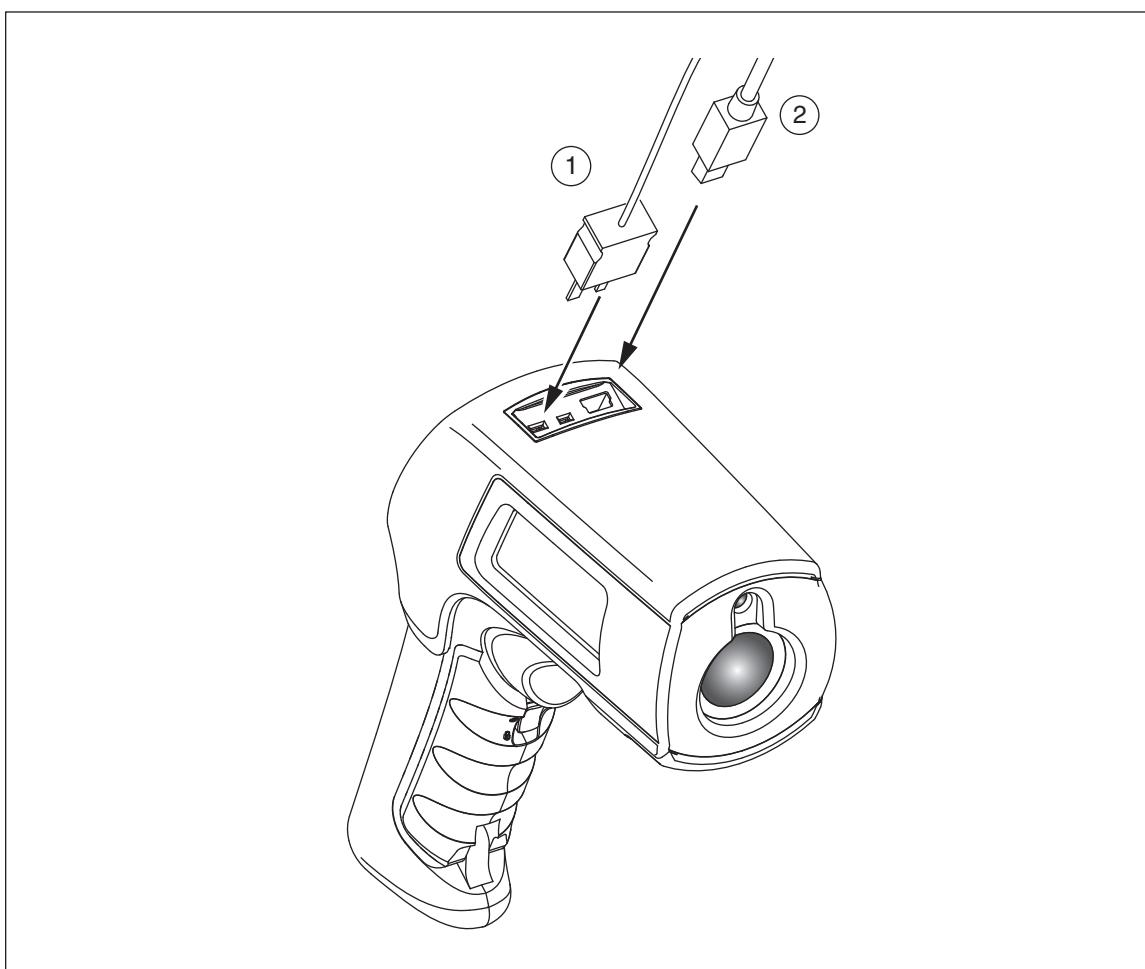

Figure 7. Thermocouple and USB Connections
The stored data of the 568 can be downloaded to a personal computer (PC) via the included USB cable and the included FlukeView® Forms Documenting Software. See the FlukeView® Forms documentation for details. The USB input (2) is located on the top of the thermometer next to the external probe input (1) (see Figure 7).
The thermometers come with a bead K-type thermocouple probe. The probes attach to the thermometers via the probe input located on the top of the thermometer (see Figure 7).